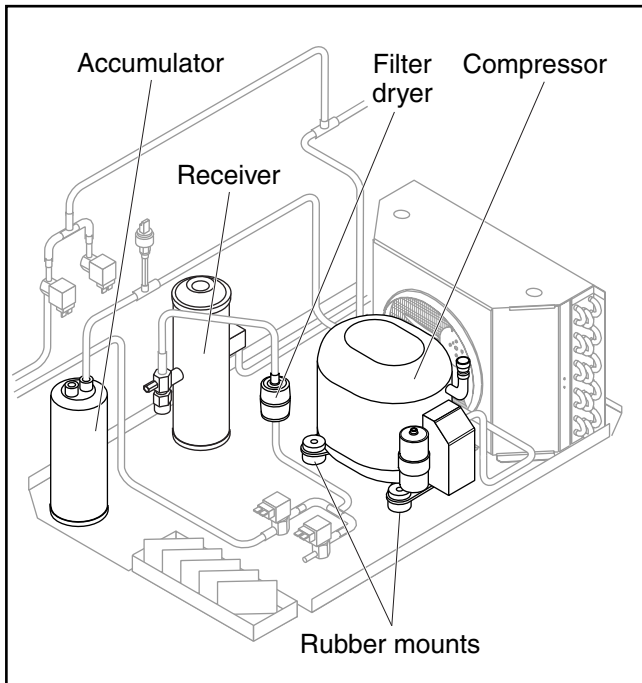

Figure 12. Refrigeration Compartment
4. Unsolder the refrigeration lines at the compressor (Figure 12).
4. Remove the insulation jacket from the accumulator (Figure 12).
4. Unsolder the refrigerant line at the filter dryer (Figure 12).